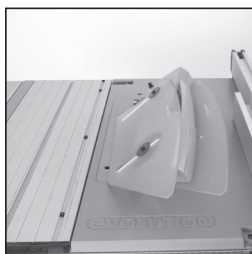

FIG. 9
- When satisfied that the blade guard works throughout the blades height adjustment range, check that the guard works equally well with the blade set to a bevel angle. (**Fig. 9**)